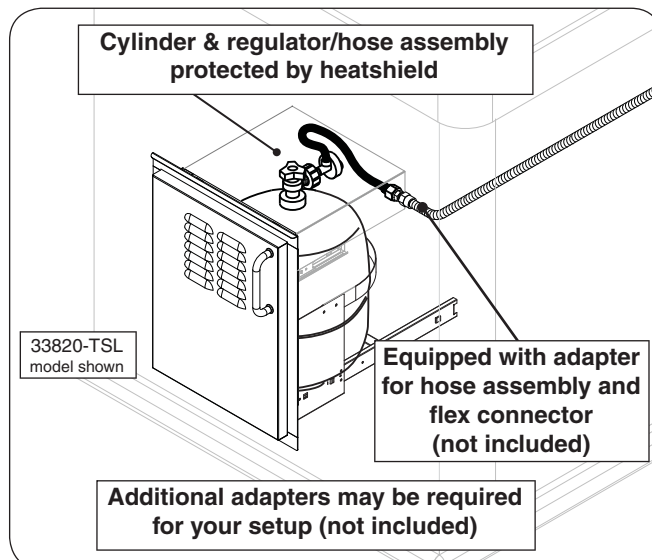

Fig. 12-3 Optional RHP door w/ tank tray
- **RHP offers propane tank door with tank tray models to meet the cylinder install requirements. See Fig. 12-3. Contact your dealer for ordering information.**